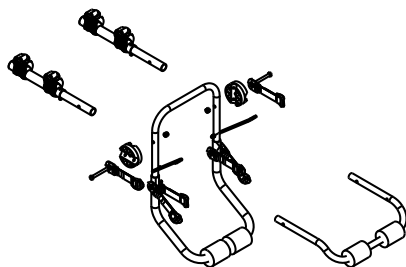

FIG. 3
- Slide top support into one of the support arms and align the through holes. Slide the spacer in line with the hole. **Note: The spacer has two different grooves to accommodate the main frame and the arm assembly.** Slide buckle assembly onto the M8 x 65 hex head cap screw (larger screw) and insert through the through hole in the support arm frame, the spacer and the top main frame hole. (Fig.3 & 4) Repeat on other side (Fig.3 & 4).